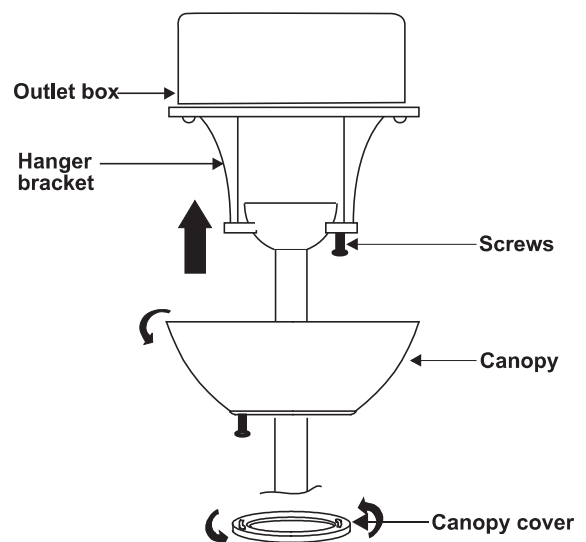

Figure 11
7. Slide the canopy up to hanger bracket and place the key hole on the canopy over the screw on the hanger bracket, turn canopy until it locks in place at the narrow section of the key holes. Note: adjust the canopy screws as necessary until the canopy and canopy cover are snug. (Fig.11)